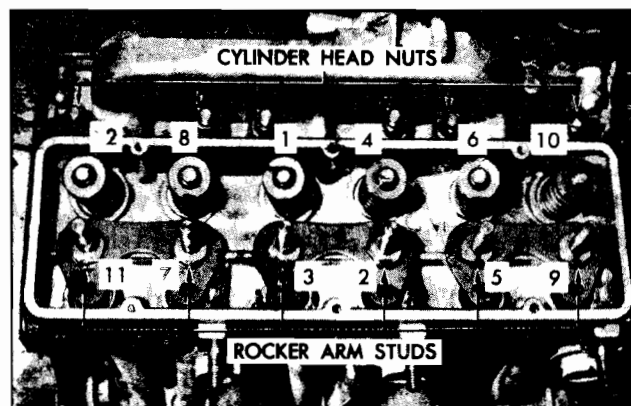

Fig. 1—Corvair Cylinder Head Torque Sequence
2. Using the sequence shown in Figure 1, tighten all cylinder head studs and nuts to 20 ft. lbs.
Replacement of gaskets on these early engines is not required, however, a special cylinder head retorquer operation is necessary. Consequently, it is requested that all Corvair units built prior to serial numbers 5W120905 and 5L102680 be called in, checked and corrected as necessary. Any Corvair with an engine number lower than "928" (example T0919RB) must have the cylinder heads retorqued as outlined in Fig. 1. If an early production engine has already been retorqued, it will be identified with a daub of blue paint on the oil filter adapter.